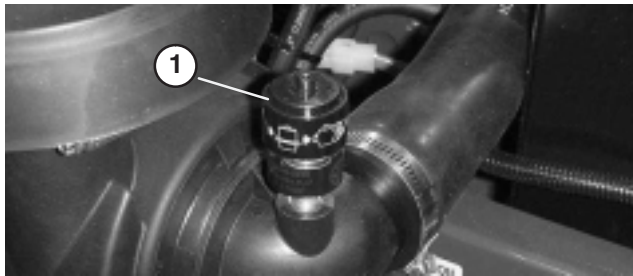

Figure 33
2. Service the air cleaner filters when air cleaner indicator (Fig. 33) shows red or every 400 hours (more frequently in extreme dusty or dirty conditions). Do not over service air filter.
7. Reset indicator (Fig. 33) if showing red.